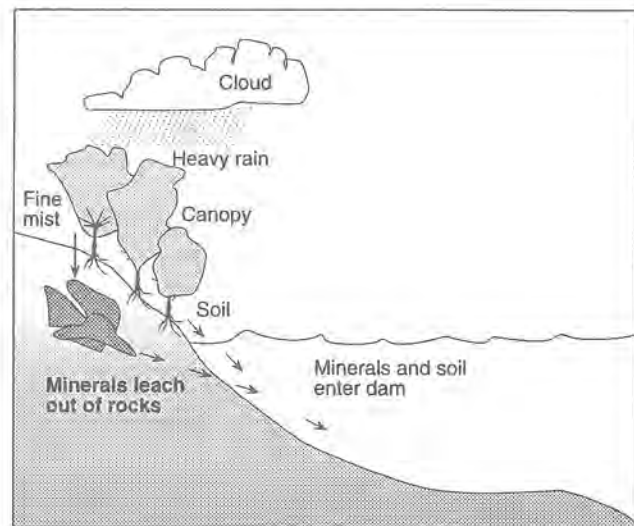

Fig 7 The canopy in the catchment area acts as a fine filter creating a mist. This fine mist percolates through the soil.
- ground cover should be maintained between trees to minimise soil erosion (also shown in Figure 7)
washed in from the catchment (for example iron and manganese compounds) form insoluble substances which also settle into the sediment at the bottom of the dam (Figures 7 and 11).